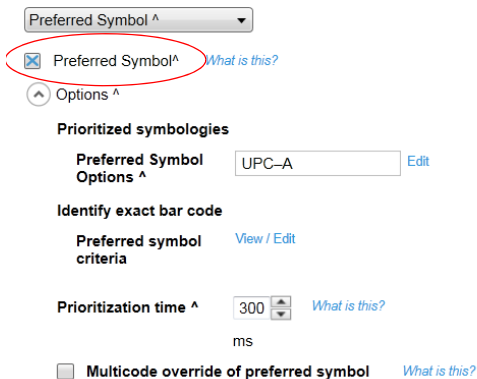

Figure A-3 Enabling Preferred Symbol
2. Select the **Preferred Symbol** check box to enable (circled in Figure A-3).
3. Select **UPC-A** from the drop-down list in Preferred Symbol Options (see Figure A-3).